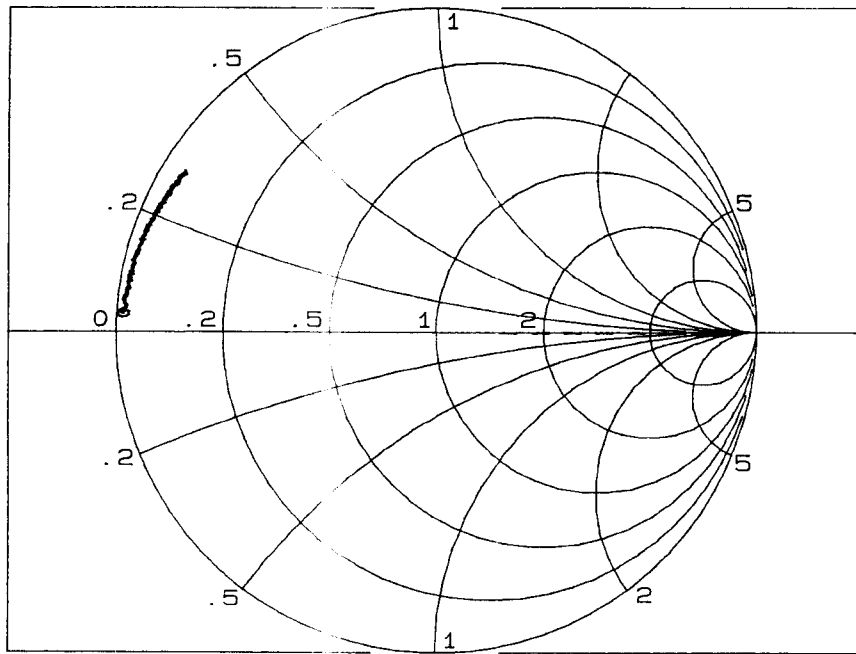
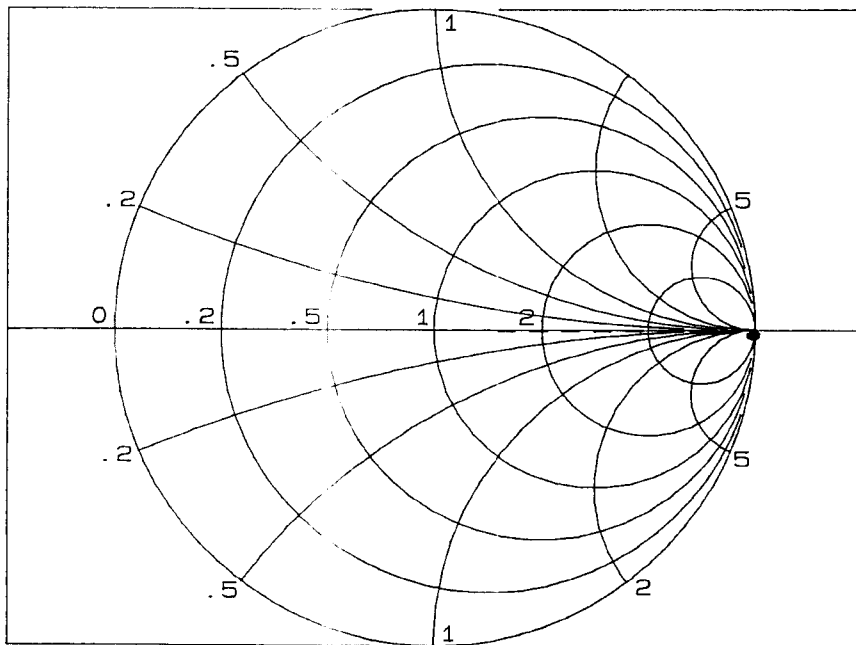

Figure 10. Impedance Plot of Functional HP 11941A
Figure 11. Impedance Plot of HP 11941A with Open Circuit
4. Connect the probe to Port One of the HP 35677A. The impedance display should appear as shown in figure 10. At 100 kHz the measured impedance should approximate that of a short circuit; at 1 MHz the probe should measure inductively, with a maximum normalized impedance value of $j0.50$. The most common failure mode for this test would be an open in the input circuitry, in which case the impedance display would appear as shown in figure 11.